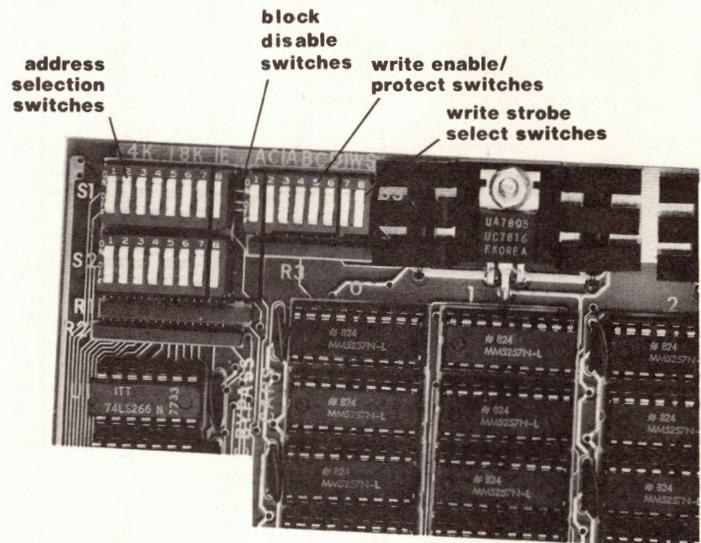

Figure 9.
4. Observe the 8 pole dip switches. The side with the number 1-8 faces the upper edge of the board (see Figure 9). Mount the switch in place, then solder. (Note: may be already soldered in place.)